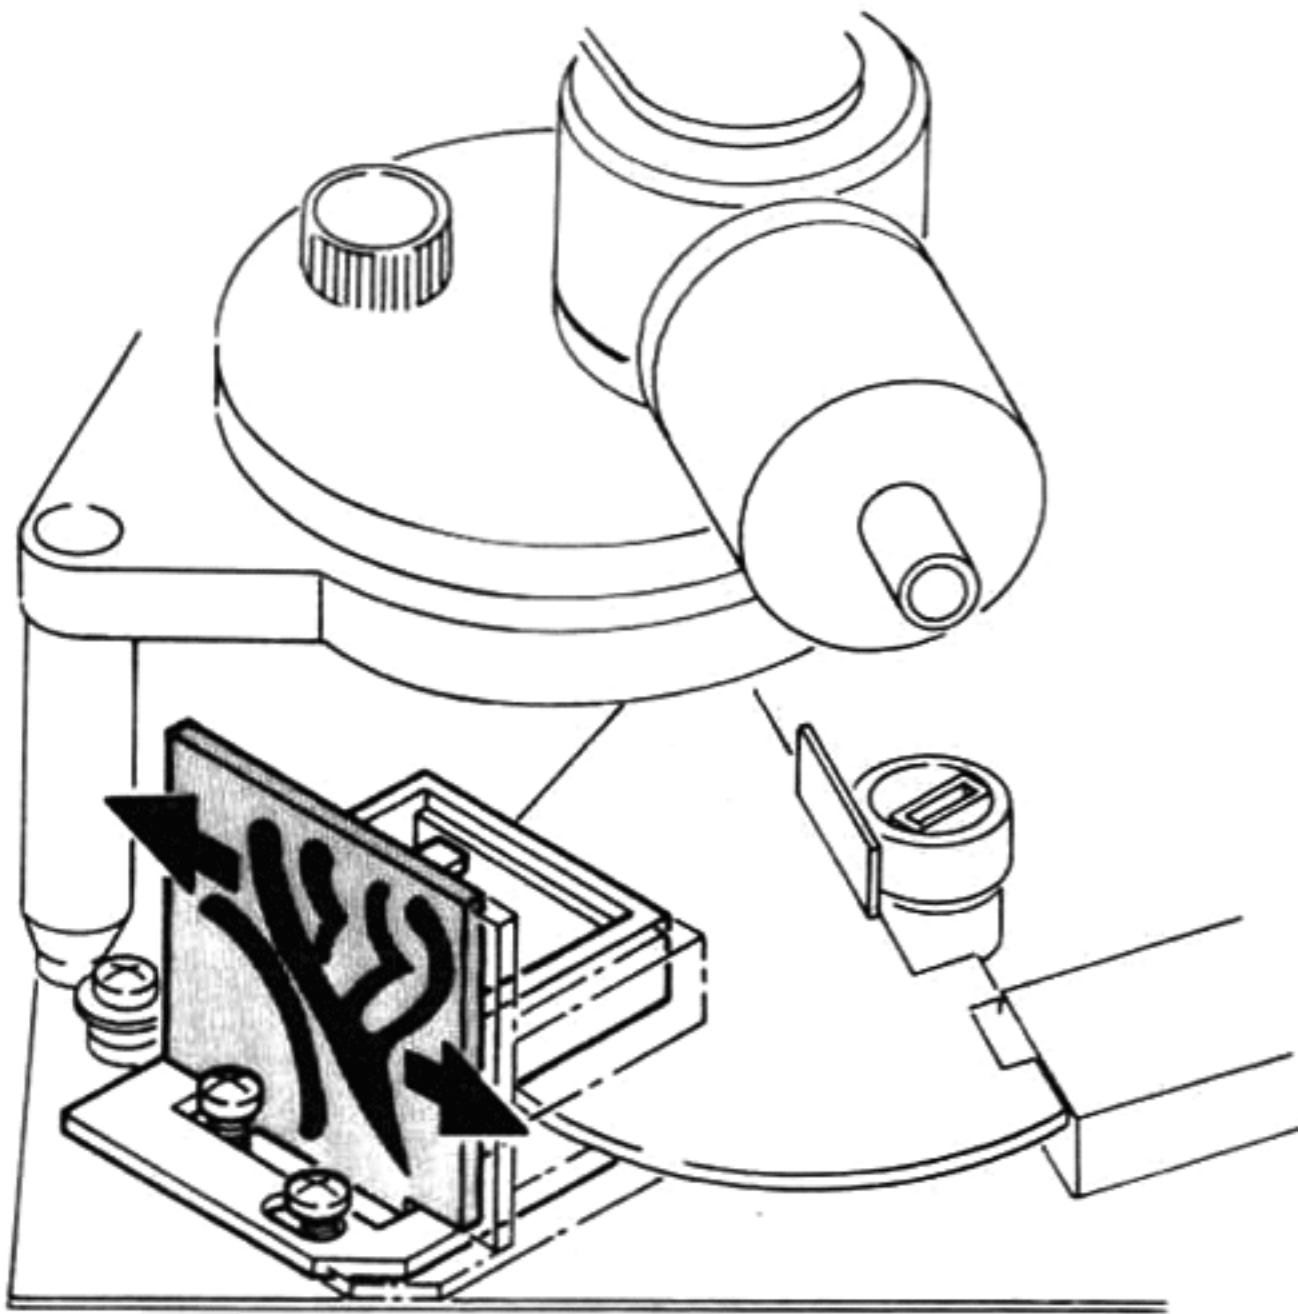

Fig. 11
- 1) Place the stylus on the test record's (ES-1008) auto-out groove by means of the manual arm carrier. When pressing the LOAD PLAY/CUT button to start operation, loosen the screw on holder A (end) and move the holder A (end) to the left or right until the a count of 18 to 22 (30 cm) is obtained. (See figure 11)